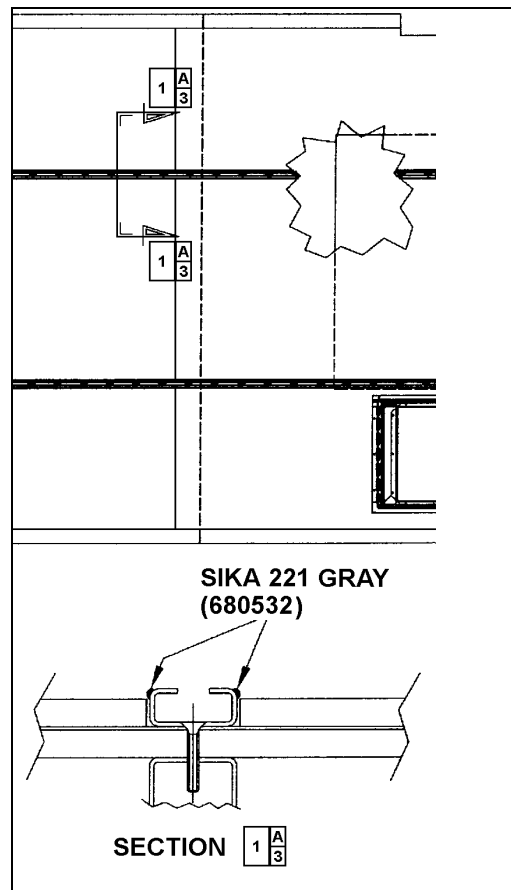

FIGURE 93: APPLICATION OF SIKA 221 GRAY 18641
- Apply Sikaflex 221 gray sealant (680532) alongside passenger seat fixing tracks (refer to Figure 93).